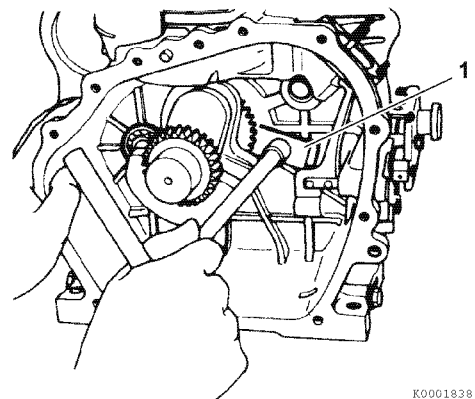

Figure 6-49
16. Remove the crankshaft bearing retainer fastener and bearing retainer (1, **Figure 6-49**) from inside the crankcase.